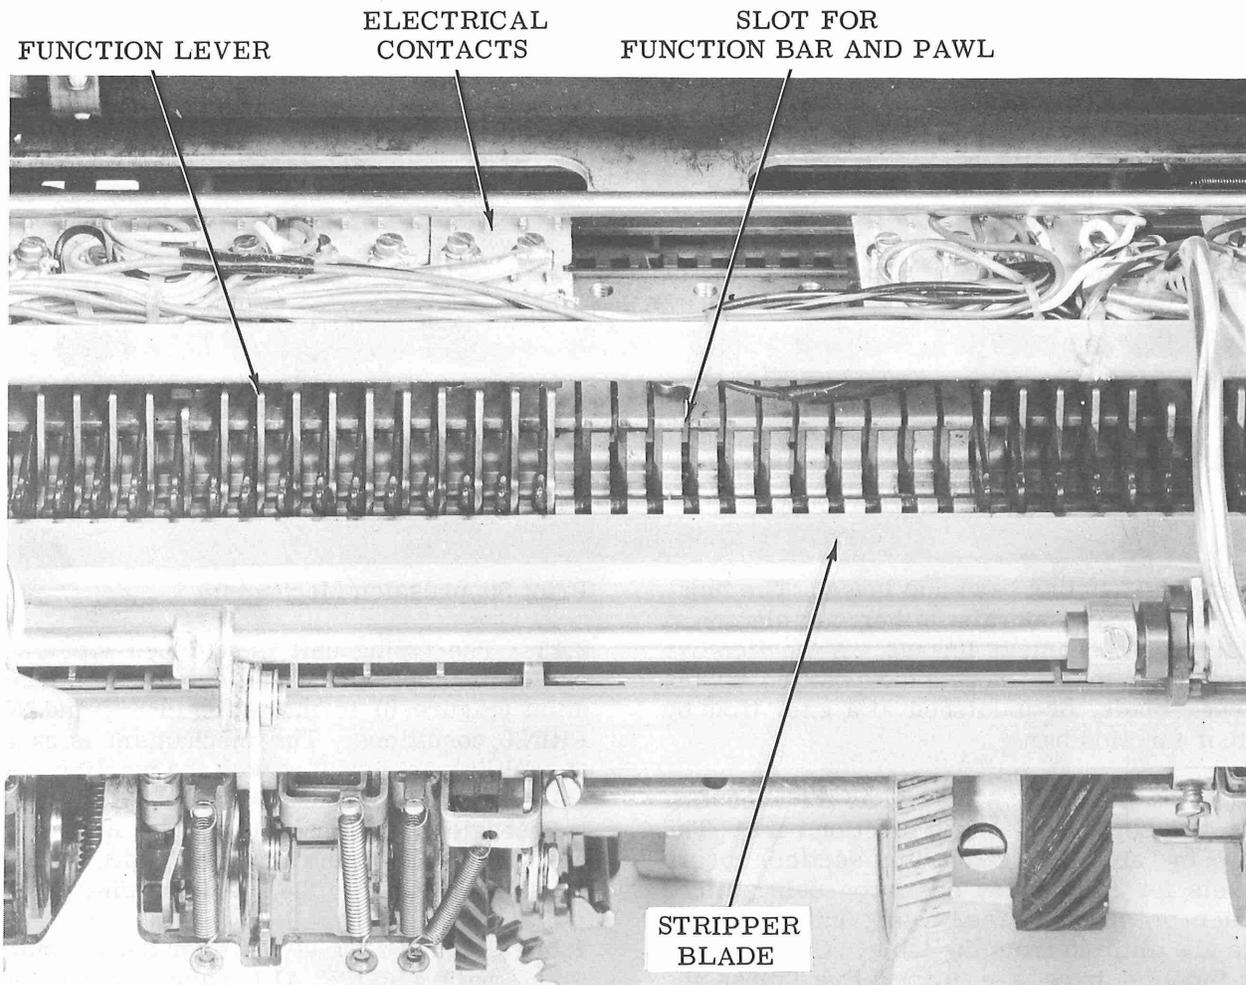

Figure 5 - Stunt Box Mechanism (Rear View)
2.10 The stunt box mechanism (Figure 5) provides a mechanical means for recognizing control codes on the receive leg of the signal line. The signals are initially detected by, and arranged in, the typing unit selector mechanism. The mechanical arrangement of code bits, transferred to the codebar mechanism, is sensed by the stunt box mechanism. Typing of graphics will occur if the printing mechanism is not inhibited by the print suppression mechanism. Code reception and detection continues as long as the typing unit selector mechanism operates on the signal line.